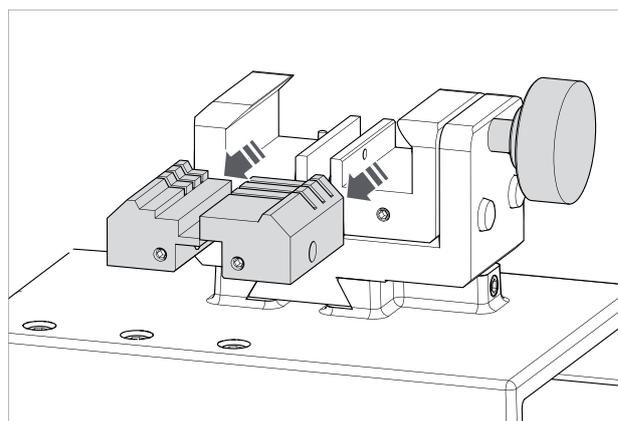

Fig. 30
- 3) Use your fingers to pull the jaw to be removed out towards the operator (Fig. 30).